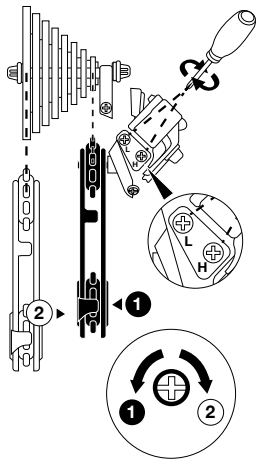

Figure 17. Derailleur stop screws setting
2. The upper tensioner should be aligned with the high or low cog when the derailleur is in high or low speed setting. If the tensioner is not aligned, you must tighten or untighten the stop screw to obtain the correct setting (*Figure 17*).